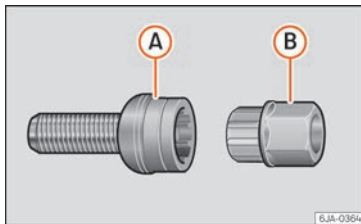

Fig. 62 Anti-theft wheel bolt with adapter.
- Insert the adapter **(B)** »» **Fig. 62** with its toothed side as far as it will go on the interior tothing of the anti-theft wheel bolt **(A)** so that only the outer hexagonal is protruding.